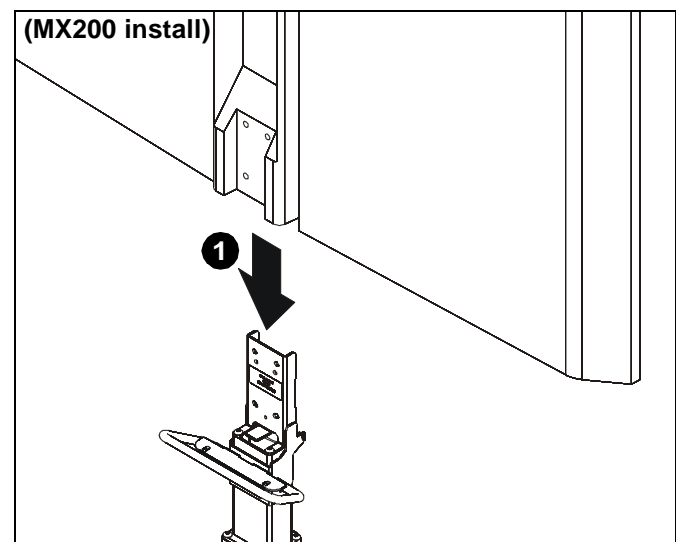

Figure 3
1. Carefully slide display onto column assembly (D). (See Figure 3)